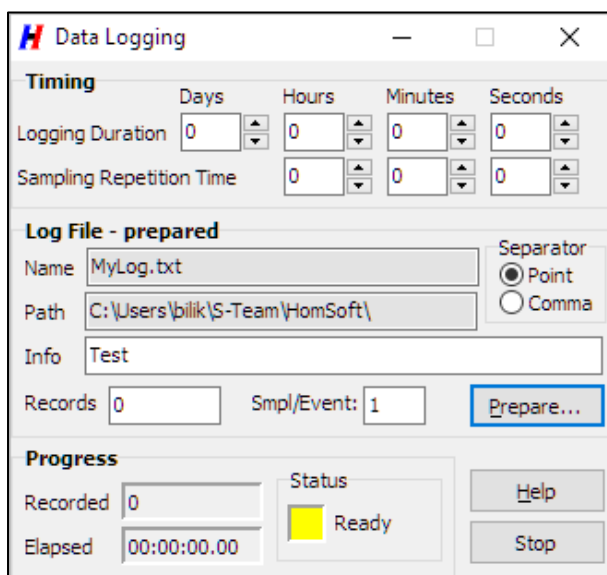

Figure 54. Data Logging window and suggested settings.
3. Open **Data Logging** window (click **View|Logging Window** menu item) and make settings as in Figure 54. Concentrate on the following: